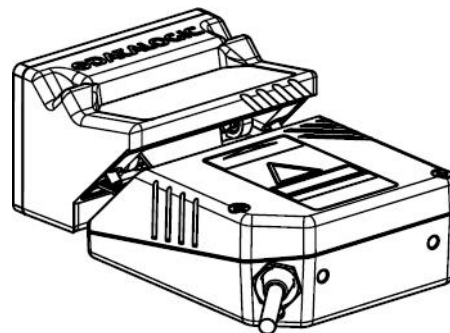

Figure 34 –Mount OM2000N
- 4) Check that the seal is correctly positioned and then after having aligned the OM2000N onto the scanner, fix it using the two screws (see Figure 34).